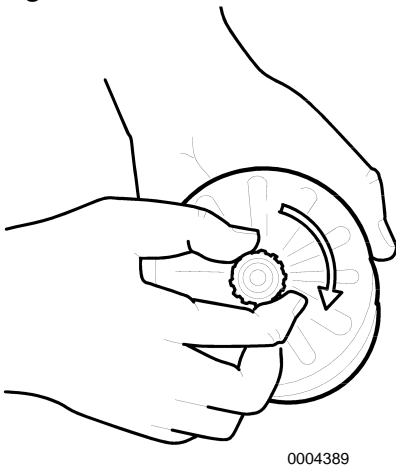

Figure 9
- Tighten the rotor nut firmly by hand (**Figure 9**).